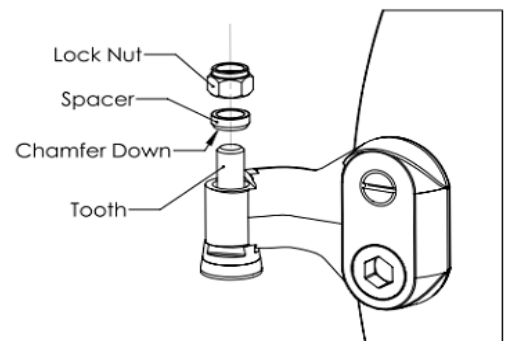

Figure 1.2
10. Install your teeth with the carbide facing down. The shoulder of the tooth will meet the flat indent of the pocket and the tooth will not rotate. Insert the spacer over shank, with the chamfer down, then thread one of the lock nuts onto the top portion of the tooth. Hand tightening is good for now. Repeat until all teeth are installed. (Figure 1.2)